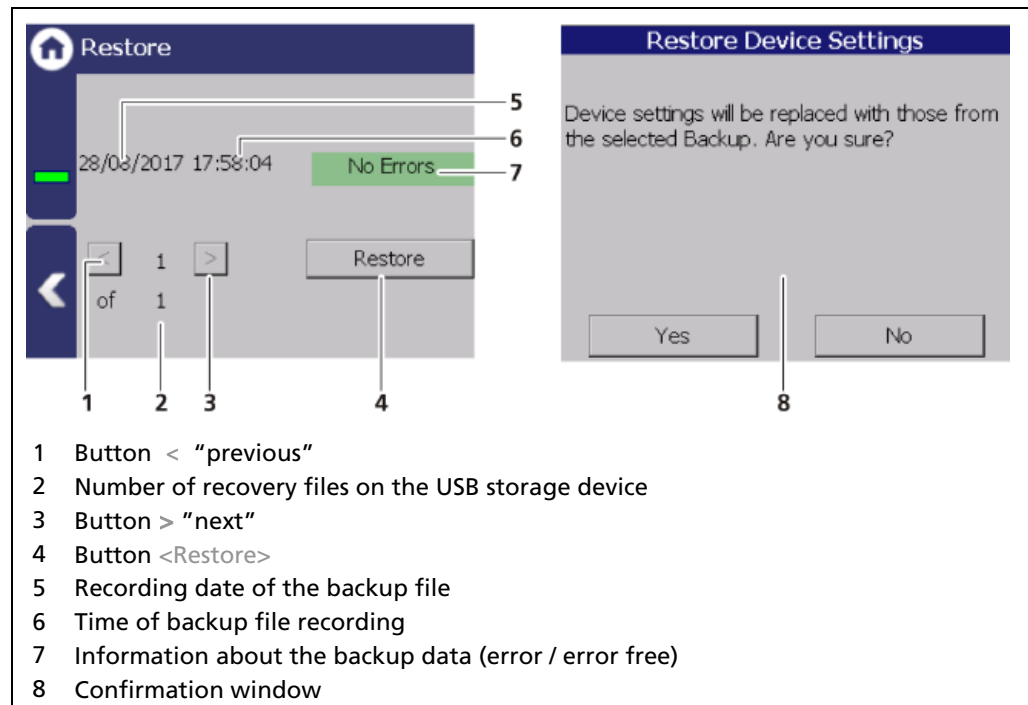

Fig. 120 Restore
2. Select the backup file with the buttons (Fig. 120, item 1,3)
- ▶ The date and time of the backup is displayed (Fig. 120, item 5, 6). Only error-free (Fig. 120, item 7) backup files can be loaded.
3. Click on the button "Restore" (Fig. 120, item 4).
4. A confirmation message (Fig. 120, item 8) appears.